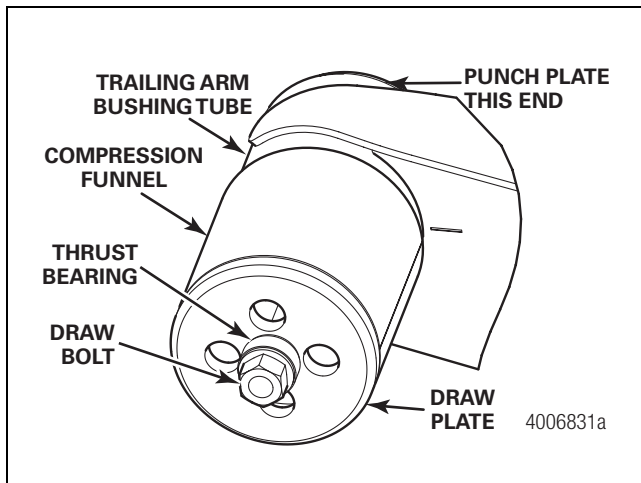

Figure 4
13. Snug the draw bolt while ensuring that the compression funnel rests securely against the trailing arm bushing tube. Figure 4. The thrust bearing must be free to turn at all times. Meritor recommends lubricating the draw bolt threads and between the thrust bearing and flat washers with bearing grease such as Shell Darina Grease 1 or equivalent, before each bushing replacement.